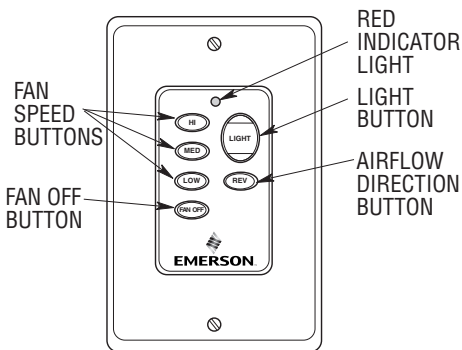

Figure 23
Your SW114 Fan/Light Wall Control (Figure 23) has full control of your fan, lights, and airflow direction.
- 1. To set the desired fan speed, push the HI, MED, or LOW buttons to operate your fan on high, medium or low speed (See Figure 23).